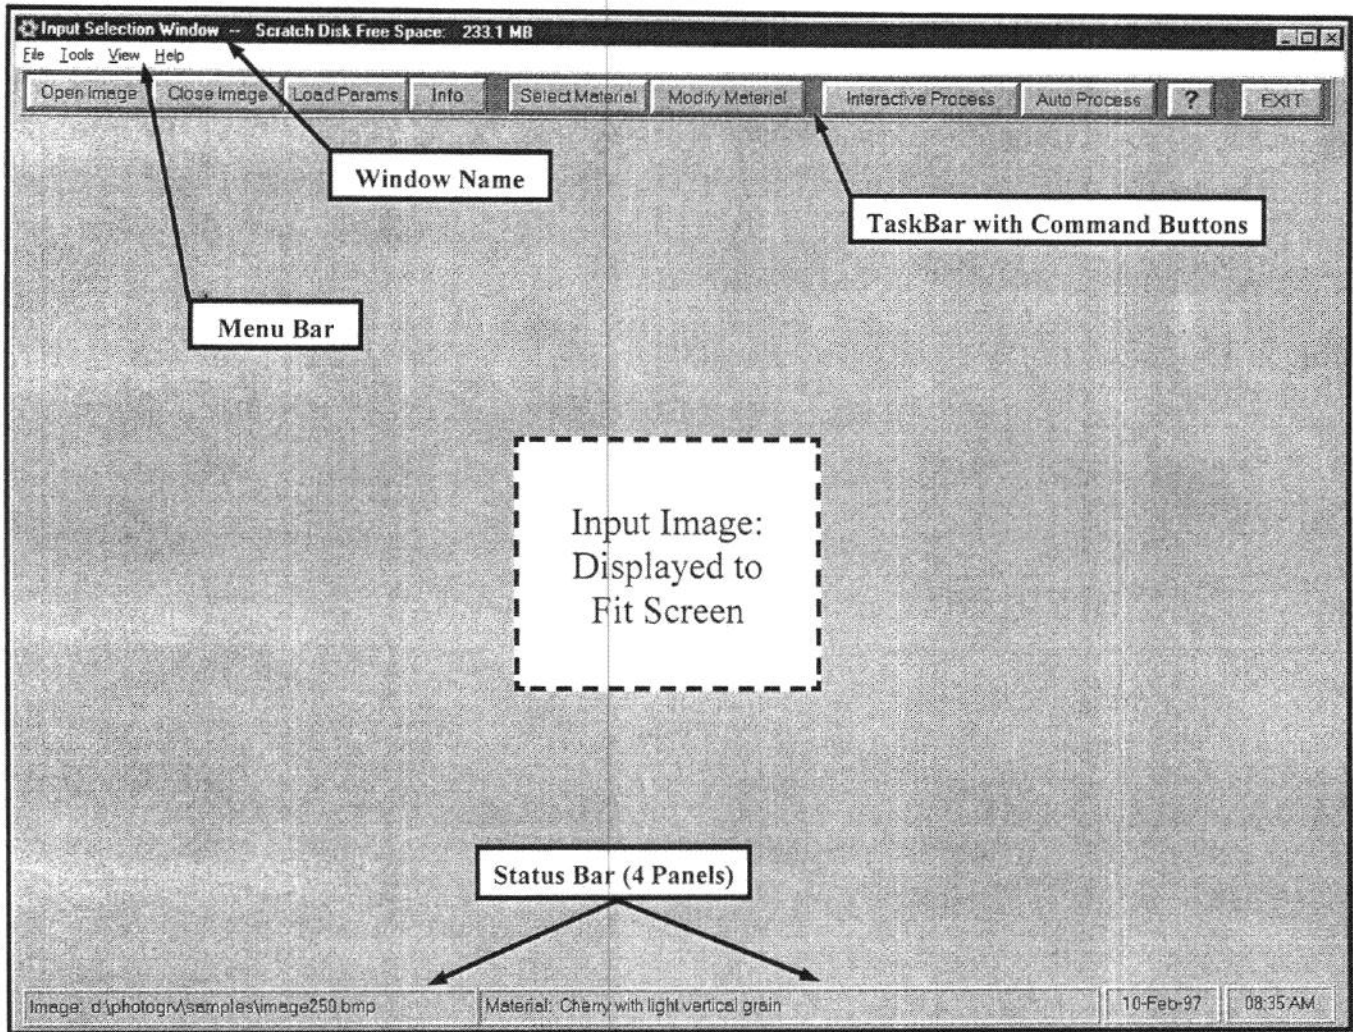

Fig. 3.1-1: Input Selection Window
PhotoGrav execution starts, after an initial opening screen, in the **Input Selection** window (see Fig. 3.1-1). The primary functions provided by the **Input Selection** window are: (1) Selection of an input image, (2) Selection of an engraving material (either explicitly chosen or implicitly defined by the selection of a **Named Parameter Set**), and (3) Initiation of interactive or auto processing functions. This window also provides access to the **Preferences** window (for selecting PhotoGrav options) and provides the capability to change, temporarily, the dpi (dots per inch) of an image.